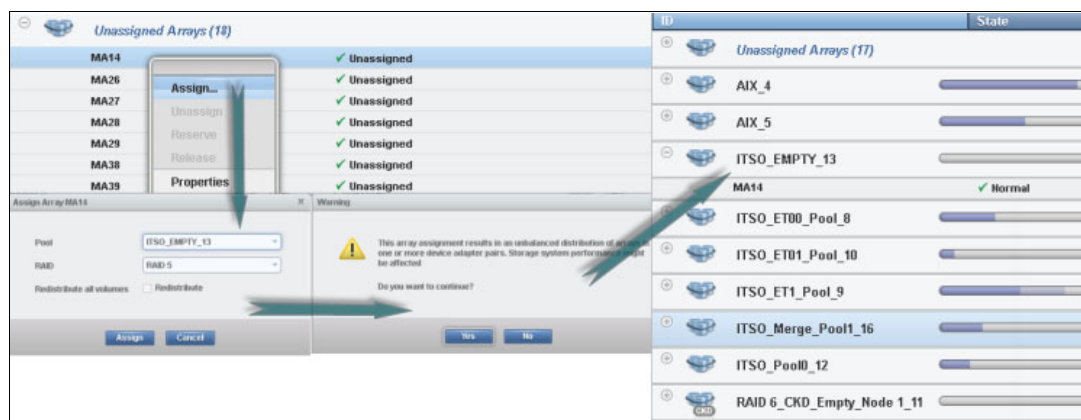

Figure 11-48 Assign an array to a single pool
4. Assign one or more arrays to the single pool, as shown in Figure 11-48.